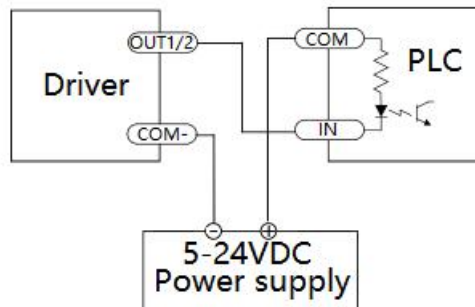

Figure 2-6 Connect with PLC
B. Connect OUT1/OUT2 as sinking type output and connect it to the PLC input, as shown in Figure 2-6 below.